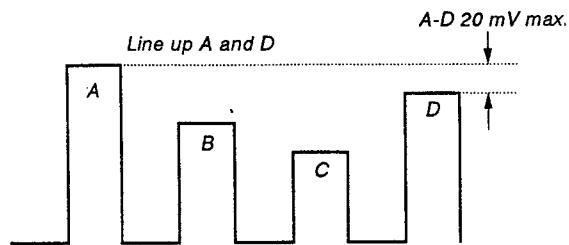

Fig. 20
- 2) Adjust **PHASE NTSC 443 ACC OFF** in the same manner as in 7-5. above. (Fig. 20)